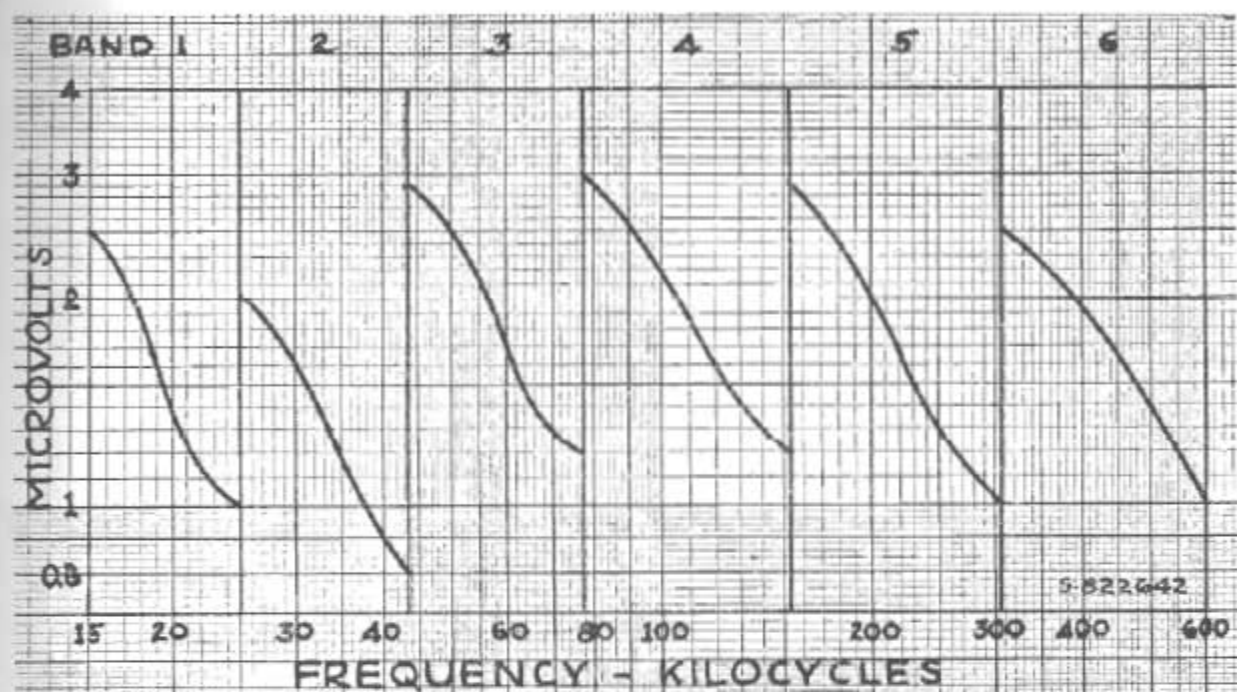

Figure 8—Sensitivity (microvolts for 6/115 M.W. Signal/Noise Ratio)
- 11.1-1 Figure 8 gives approximate normal sensitivities for the various bands. The procedure and conditions of measurement are as follows: with "AVC-Off", "Audio Tuning-Off", and with a 600-ohm non-inductive resistance at receiver output terminals, pure CW is applied from a signal generator to the receiver input through a standard dummy antenna (200 mmf., 20 microhenries, 25 ohms). The output beat note is held at 1000 cycles (receiver tuned 1 kilocycle higher than signal). The "Regeneration" control is set at standard oscillation (increased beyond critical oscillation to the point where the output drops 3 db or from 2.68 V. in 600 ohms at critical oscillation to 1.9 V. at standard oscillation). The "Sensitivity" control is set